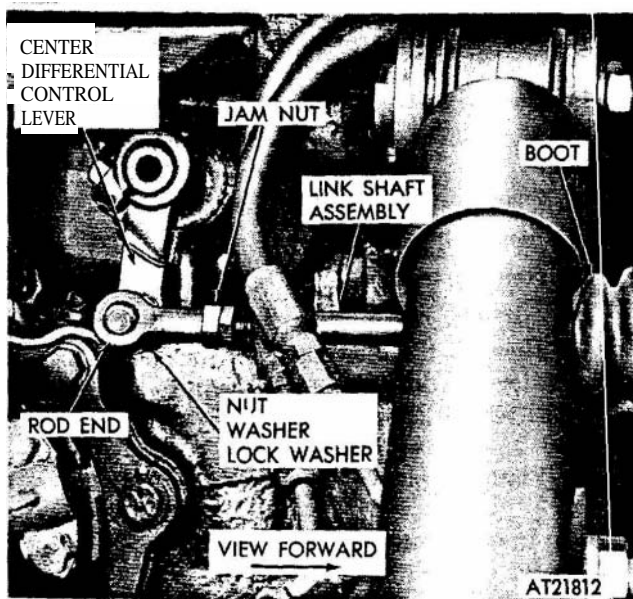
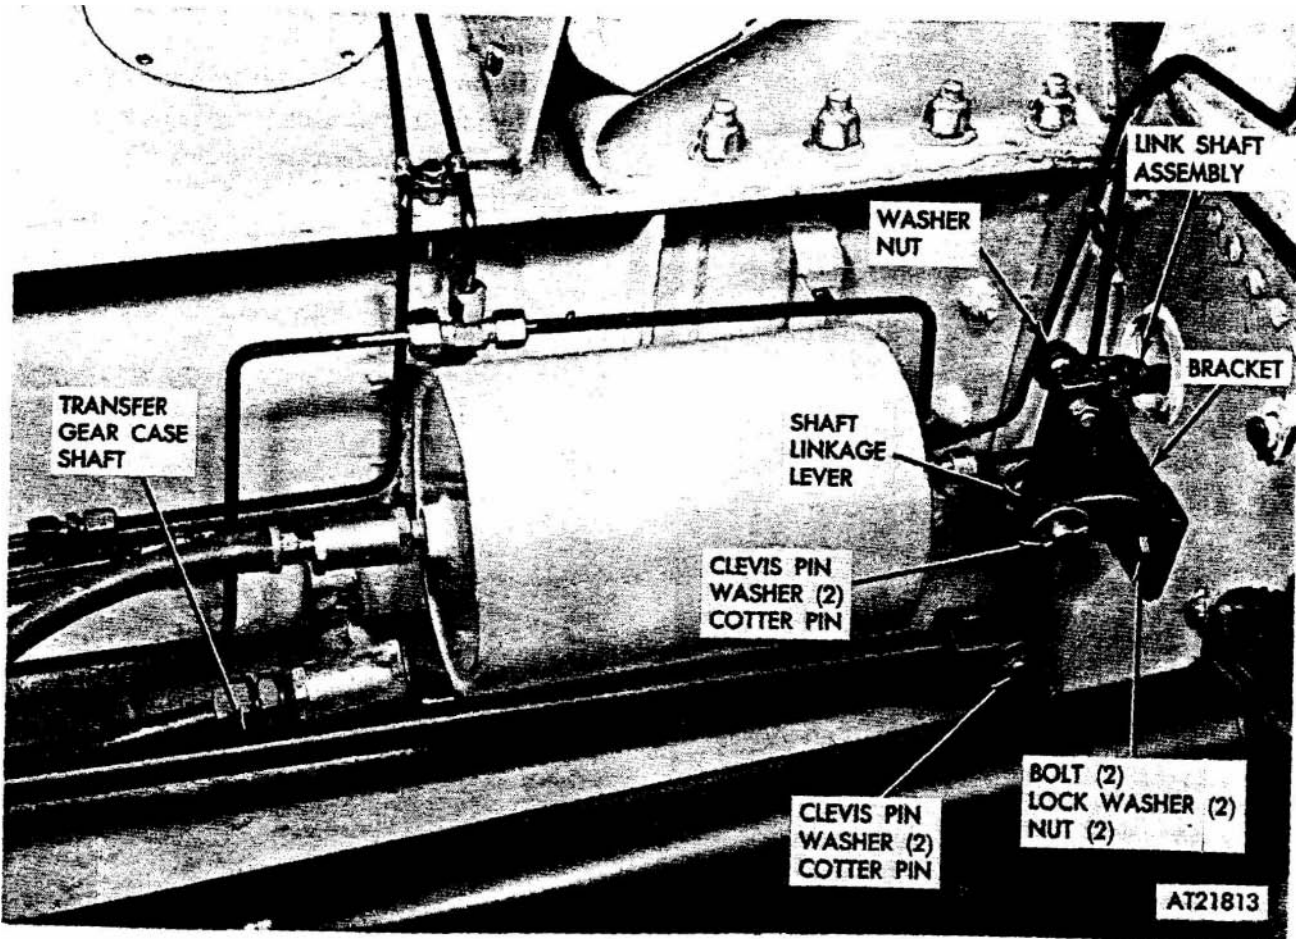
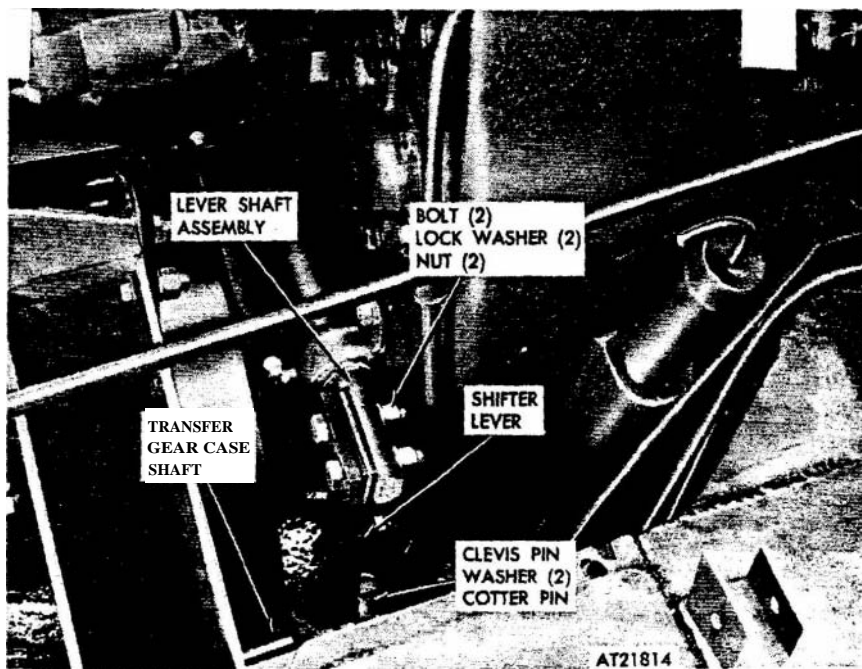
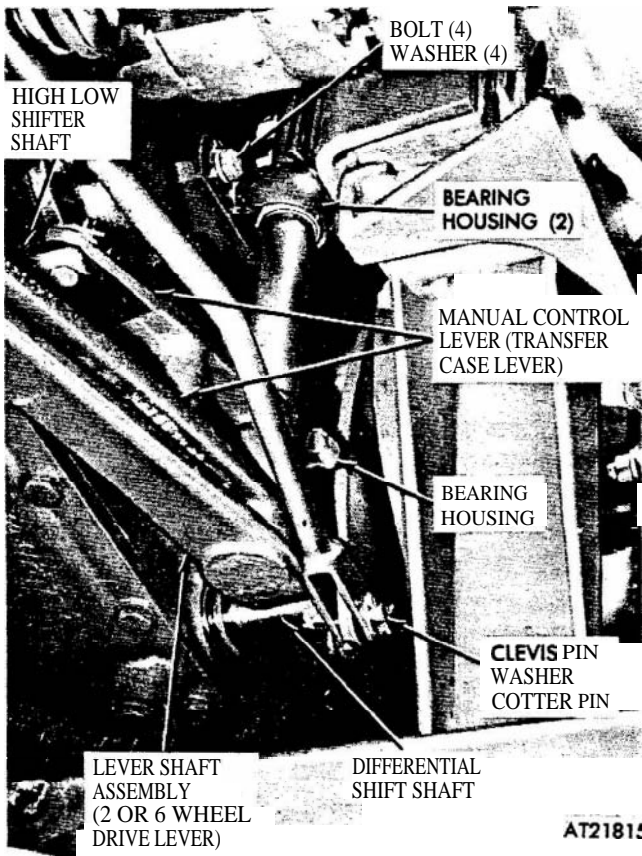

Figure 2-159. Transfer control end linkage (right side of center differential), removal and installation.
Figure 2-160. Transfer control and linkage (engine compartment), removal and installation.
Figure 2-161. Transfer control and linkage (right side of transfer case), removal and installation.
Figure 2-162. Transfer control linkage (left side of transfer case), removal and installation.
- (1) Remove console (refer to 2-33).
- (2) Remove tractor seats (refer to para 2-221).
- (3) Remove tractor hull access panel (refer to para 2-208).
- (4) Remove nut and lock washer securing link shaft assembly to center differential control lever. Remove link stud from lever and remove flat washer (fig 2-159).
- (5) Loosen clamps securing boot to tractor hull and link shaft assembly.
- (6) Remove nut and washer securing link shaft assembly to transfer gear case shaft. Remove link shaft assembly and remove flat washer from link stud (fig 2-160).
- (7) Loosen jam nuts securing rod ends to link shaft assembly. Remove rod ends, jam nuts, and boot from link shaft. Remove clamps from boot.
- (8) Remove cotter pin, two washers, and clevis pin securing transfer gear case shaft to shifter lever (fig 2-161).
- (9) Remove transfer gear case shaft by removing cotter pin, two washers, and clevis pin securing shaft to shaft linkage lever.
- (10) Remove shaft linkage lever by removing cotter pin, two washers, and clevis pin securing lever to bracket (fig 2-160).
- (11) Remove bracket by removing two nuts, washers, and bolts securing bracket to tractor hull.
- (12) Remove cotter pin, washer, and clevis pin securing transfer case lever to transfer high low shifter shaft (fig 2-162).
- (13) Remove cotter pin, washer, and clevis pin securing drive lever to transfer differential shift shaft.
- (14) Remove shaft assembly by removing four bolts and lock washers securing lever shaft assembly bearing housings to transfer case.
- (15) Remove two bolts, lock washers, and nuts securing shifter levers and plate to lever assembly shaft (fig 2-161).
- (16) Slide manual control lever assembly (transfer case lever) and two bearing housings from lever shaft assembly.
- (1) Slide manual control lever assembly (transfer case lever) and two bearing housings on lever shaft assembly (fig 2-162).
- (2) Position shifter levers and plate to lever shaft assembly, in the same order as removed. Secure with two bolts, lock washers, and nuts (fig 2-161).
- (3) Paint contact surfaces of bearing housings with unreduced zinc chromate primer (**MIL-P-8565**).
- (4) Position lever shaft assembly on transfer case and secure with four bolts and washers (fig 2-162).
- (5) Secure lever shaft assembly (drive lever) to
(6) Secure manual control lever to transfer high tow shifter shaft with clevis pin, washer, and cotter pin.
(7) Coat contact surface of shaft linkage bracket with un-reduced zinc chromate primer (MIL-P-8565) and position bracket on tractor hull. Secure with two nuts, bolts, and lock washers (fig 2-159).
(8) Align shaft linkage lever *in* bracket and secure with clevis pin, two washers, and cotter pin.
(9) Insert transfer gear case shaft into hull and secure to shifter lever with **clevis** pin, two washers, and cotter pin.
(10) Secure transfer gear case shaft to center differential control lever with clevis pin, two washers, and cotter pin (fig 2-159).
(11) Slide boot and two clamps onto link shaft. Install jam nuts and rod ends to shaft so that center to center stud measurement of link shaft is 13.40 inches. Tighten jam nuts.
(12) Insert one end of link shaft assembly through hole in tractor and secure to shaft linkage lever with washer and nut.
(13) Place lever shaft assembly (6 wheel drive lever) to the "OUT" position. Place washer on shaft rod end stud and secure rod end to differential control lever with washer and nut.
(14) Operate six wheel drive lever to ensure proper engagement and disengagement. If adjustment is necessary (refer to *c.* below).